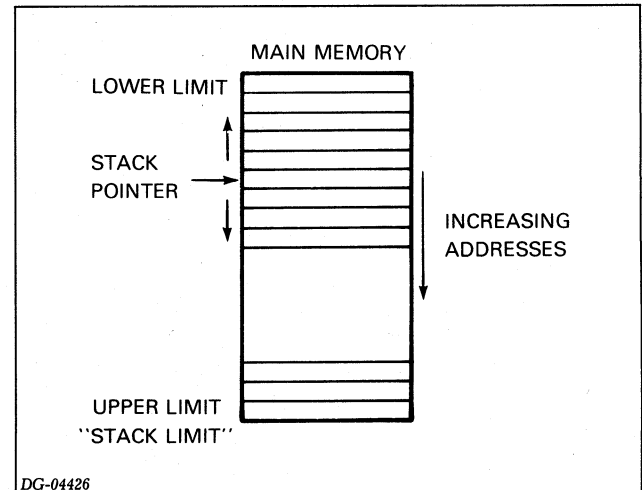

Figure 2.7 The stack area
Three parameters define a stack: (1) the lower limit, or starting location; (2) the upper limit, or stack limit; and (3) the present top of the stack, or stack pointer. The lower and upper limits define the area in memory which is reserved for the stack, and the stack pointer defines the location of the last word placed onto the stack (or the next word available from the stack). A diagram of a stack area is shown in Figure 2.7.